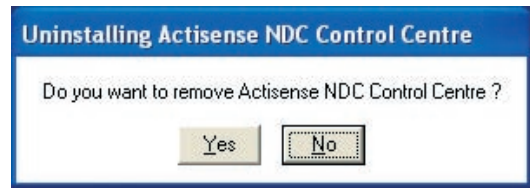
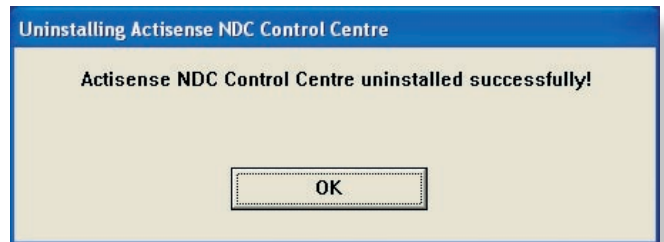

Figure 8 – Uninstall confirmation
Figure 9 – Uninstall complete
3. Once the uninstall operation has been requested, the confirmation box (**Figure 8**) will be displayed. Answer ‘Yes’ and the uninstall operation will be performed automatically. After successfully uninstalling the Actisense PC software, the uninstall completion box will appear (refer to **Figure 9**).